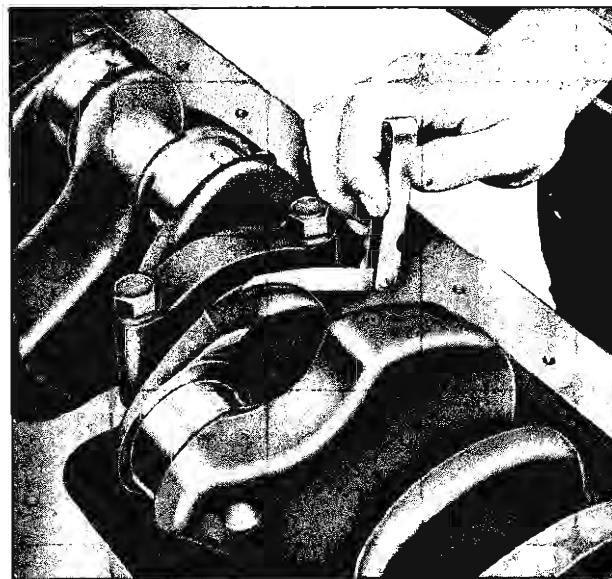

Fig. 43—Checking Crankshaft End Play
5. Check crankshaft end play by forcing the crankshaft to its extreme rear position and check the end clearance at the rear intermediate bearing (fig. 43). This end clearance should be .003" to .009".
5. Force the crankshaft to its extreme rear position and check the end clearance at the rear intermediate bearing (fig. 43). This end clearance should be .003" to .009".